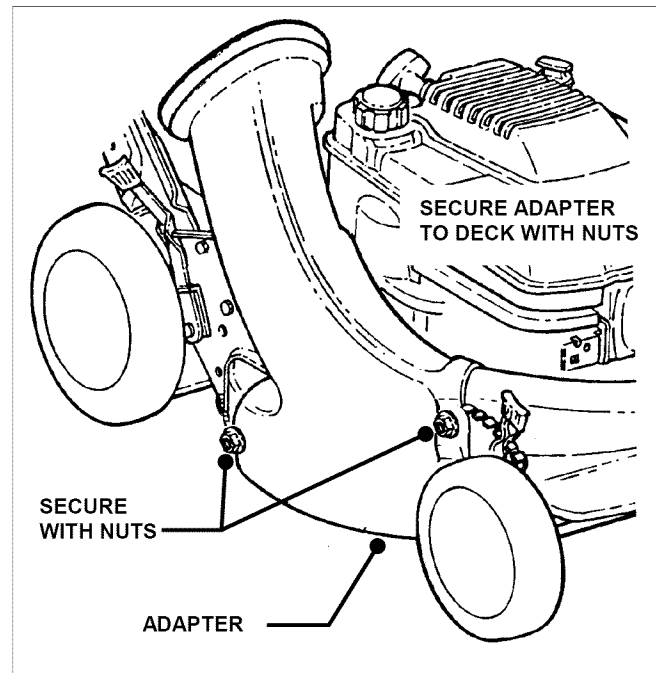

FIGURE 13
STEP 1: Install the grass bag adapter and secure to the side and top of the deck with the two nuts provided with the machine. Slot in front edge of adapter must be under nut located on top of deck. See Figure 13.